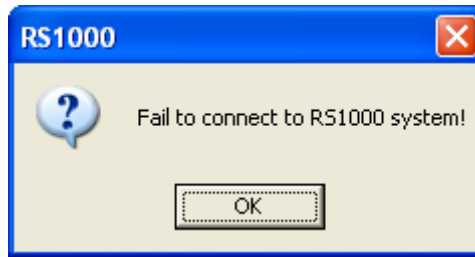

Fig. 30
Step 4: Click on “OK” and the RS1000 software is now connected to the tester. If you have chosen the incorrect serial port, the window will show: (Fig. 30)